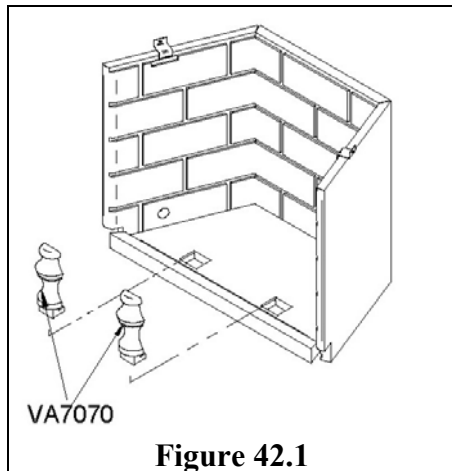

Figure 42.1
1. Remove the Andirons (VA7070) by unscrewing the anchoring bolts. Figure 42.1